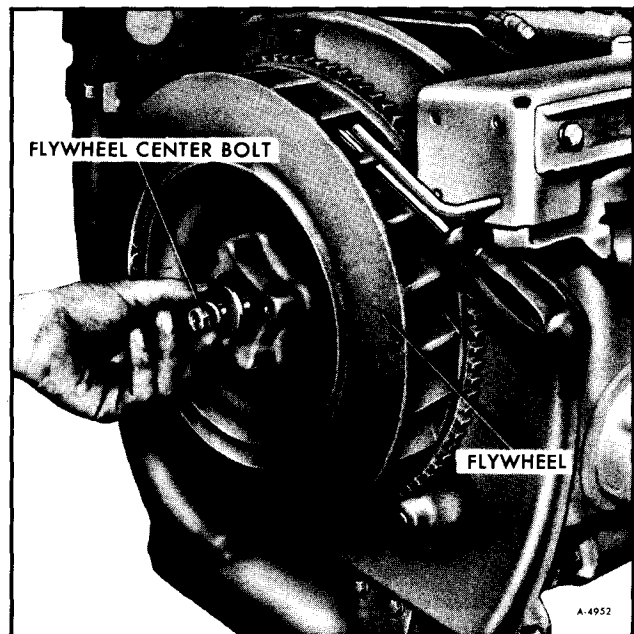

Figure 49—Removing Flywheel Center Bolt
5. Remove the flywheel center bolt, washer, and lockwasher (See figure 49).